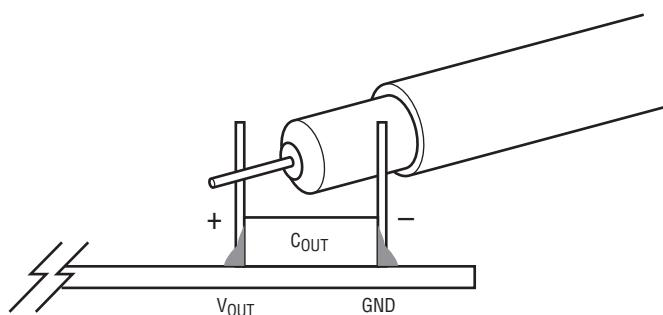

Figure 2. Measuring Output Voltage Ripple
2. When measuring the output or input voltage ripple, do not use the long ground lead on the oscilloscope probe. See Figure 2 for the proper scope probe technique. Short, stiff leads need to be soldered to the (+) and (-) terminals of an output capacitor. The probe's ground ring needs to touch the (-) lead and the probe tip needs to touch the (+) lead.